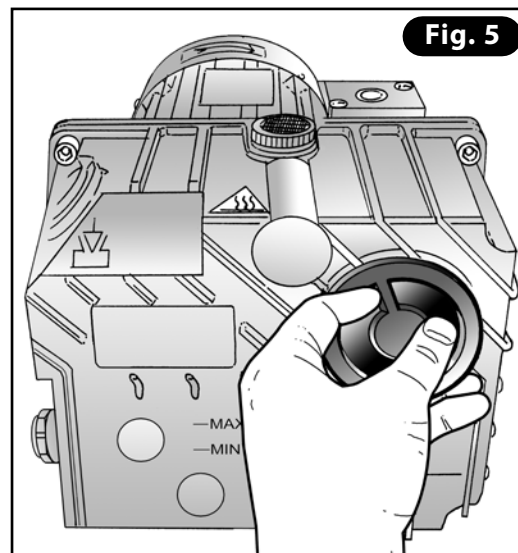
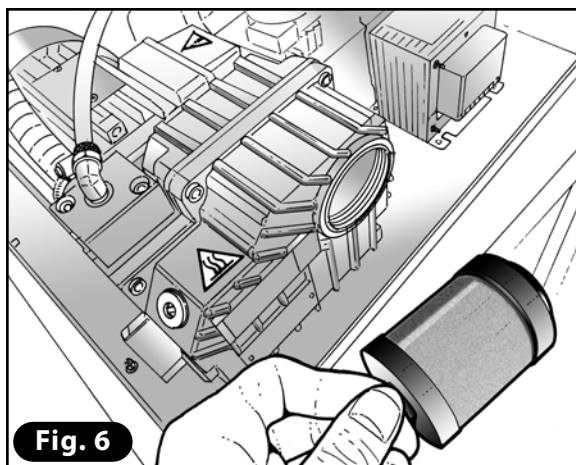

Fig. 5
Fig. 6
**8-12-18-25 m3/h PUMP:** use pliers to undo the cap of the purifier filter on the body of the pump (**Fig. 5**). Remove the purifier filter (**Fig. 6**).